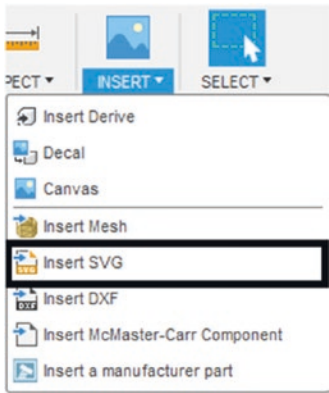

Figure 3-34. Click the “Insert SVG” button
- 3. Select the “Insert SVG” option. See Figure 3-34.